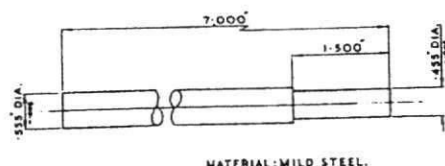

Fig. 1 Bentley 3½ and 4½ litre
(i) Position the cylinder head so that the rocker shaft studs face upwards and with the drift, Fig. 1, drive out the tubes in a downwards direction. Should a tube collapse while removing it proceed as follows: (a) Saw off the protruding part of the tube; (b) With the drift, drive remaining part of tube into the water jacket; (c) Remove nearest large core plug from upper end of cylinder head and with a suitable pair of tweezers remove remaining portion of the tube.
1. Drifts for removing tubes (Figs. 1 and 3):